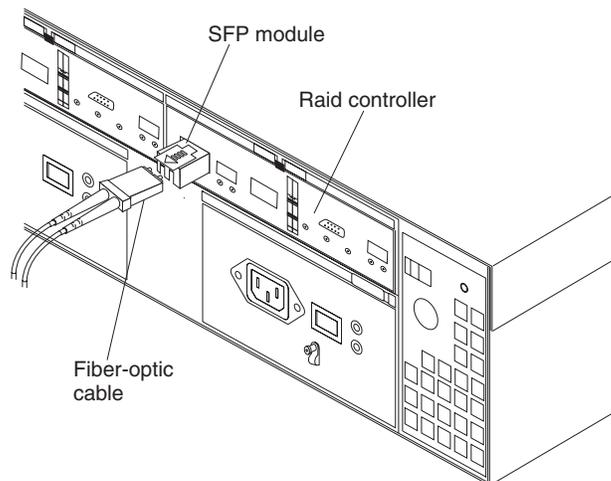

Figure 35. Connecting cables to the installed SFP
2. Connect the fiber-optic cable to the installed SFP, as shown in Figure 35.